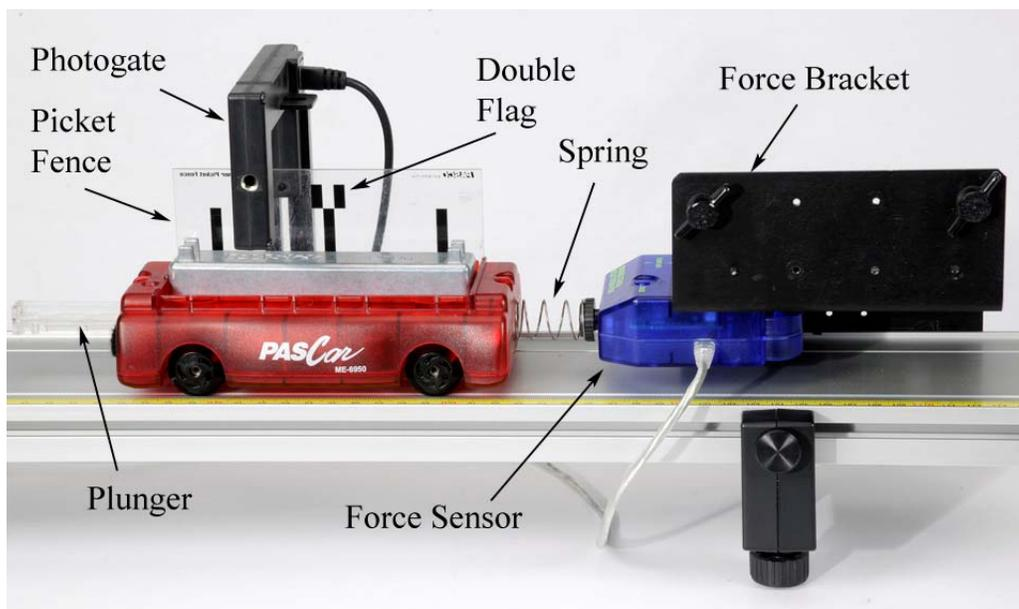

Figure 2: Collision Setup for Spring Bumper
2. Connect the Force Sensor near the end of the track using the Force Bracket as shown in Figure 2. Plug the Force Sensor into the interface and **zero** the sensor.
6. Mount the Photogate Picket Fence in the cart with the double-flag **up** as shown in Figure 2. Set the position of the Photogate in the vertical direction so the Photogate will be blocked by the double flag.
7. Adjust the position of the Photogate Bracket horizontally on the track so that it is **just** far enough away from the Force Sensor so the flag on the cart will pass through the Photogate before the cart hits the spring (see Figure 2).